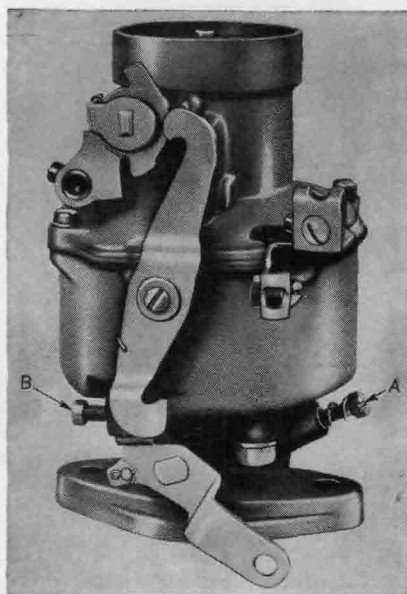

FIG. 10-8. Checking float-height adjustment. (Chevrolet Motor Division of General Motors Corporation)
a. To adjust float height, remove carburetor air cleaner, disconnect choke wire from choke lever, disconnect fuel line from carburetor, hold throttle kick lever out of way, and remove cover assembly by taking out four attaching screws. Lift cover straight up to avoid damaging floats. With cover gasket still in position, upend cover assembly on a flat surface and put special float gauge into position as shown in Fig. 10-8. Tang in center of gauge should be placed in the main discharge nozzle. In this position, the floats should just touch the tops of